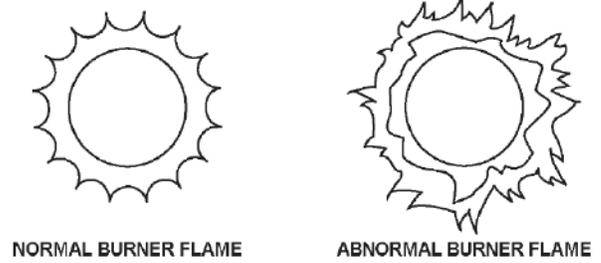

Figure 50. Normal and Abnormal Burner Flames
- Cause no excessive lifting of flame from burner ports. See *Figure 50*.